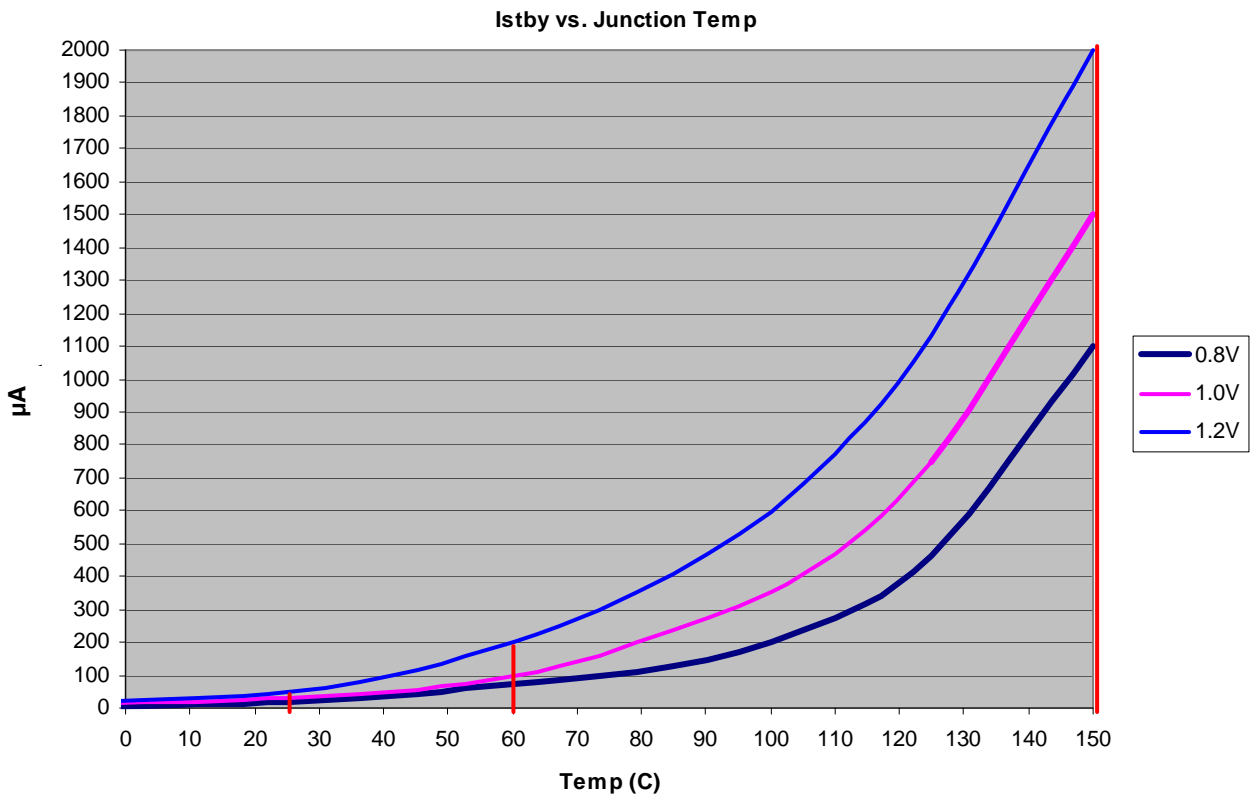

Figure 3.  $I_{STBY}$  Worst-case Specifications
27d	Refer to <a href="#">Figure 3</a> for an interpolation of this data. 11
- 7 Figure 3 shows an illustration of the  $I_{DD\_STBY}$  values interpolated for these temperature values.
- 11 Figure 3 shows an illustration of the  $I_{DD\_STBY}$  values interpolated for these temperature values.
Figure 3 shows an approximate interpolation of the  $I_{STBY}$  worst-case specification to estimate values at different voltages and temperatures. The vertical lines shown at 25 °C, 60 °C, and 150 °C in Figure 3 are the actual  $I_{DD\_STBY}$  specifications (27d) listed in Table 9.